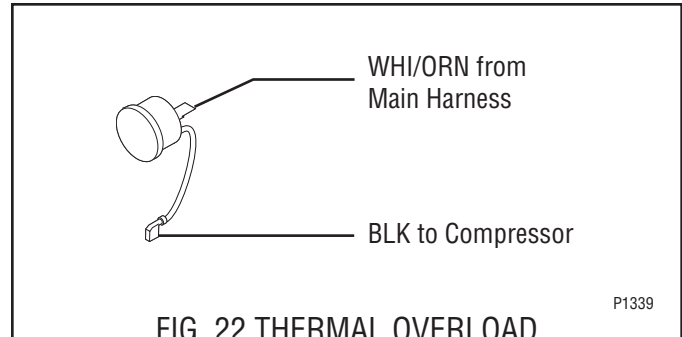

FIG. 22 THERMAL OVERLOAD
1. Remove terminal cover retainer (5) and terminal cover (4).
4. Remove overload protector retainer (3) and thermal overload protector (2) as an assembly.
5. Remove retainer (3) from overload protector (2) and discard overload protector.
6. Install retainer (3) on new overload protector (2).
7. Install retainer (3) and overload protector (2) on the compressor terminal bracket.
8. Refer to Fig. 22 and reconnect the thermal overload protector wires.
9. Reinstall terminal cover (4) and cover retainer (5).